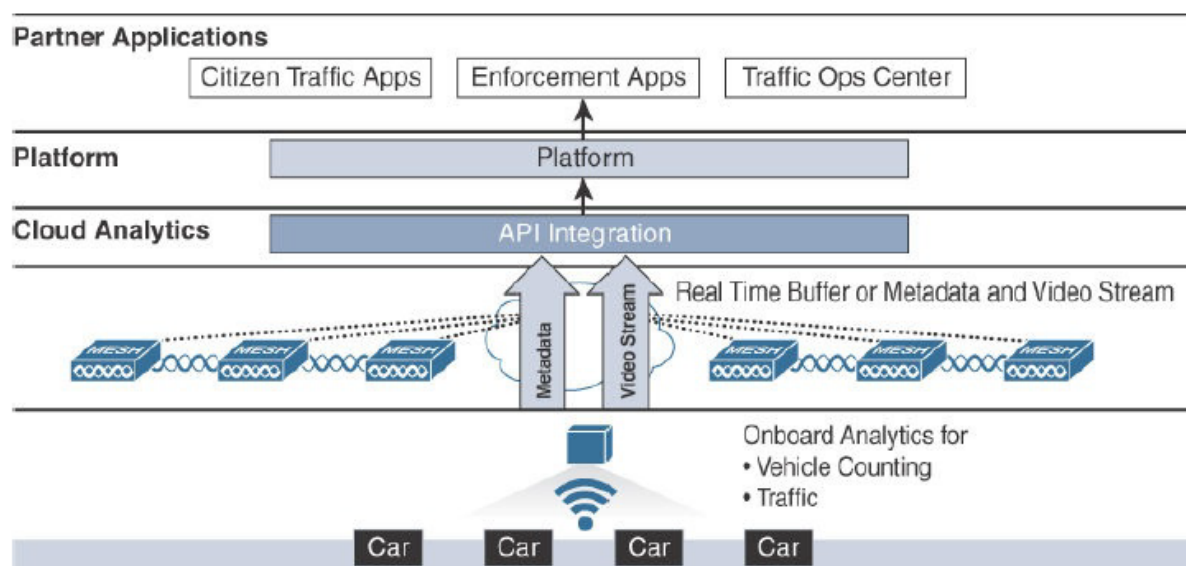

Figure 5.19 Smart City Traffic Architecture
- In the architecture shown in Figure 5.19, a video analytics sensor computes traffic events based on a video feed and only pushes events (the car count, or metadata, not the individual images) through the network.